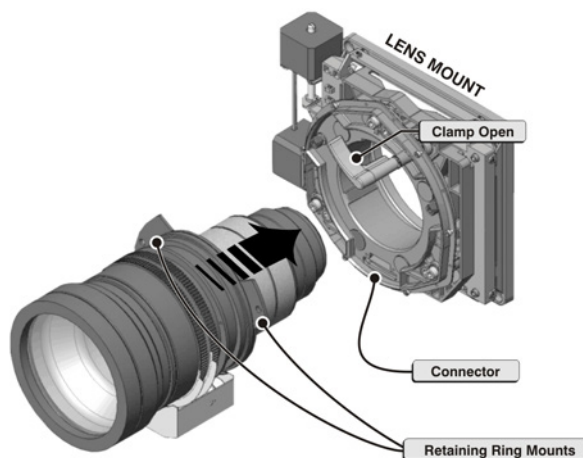

Figure 7-7 Install Lens
8. Align the mounts on the lens connector with the lens mount. Insert the lens until it connects with the magnets on the mount. Once the lens makes contact with the magnetic plates it will be seated correctly and the connector for motorized zoom and focus will be properly connected (**Figure 7-7**).